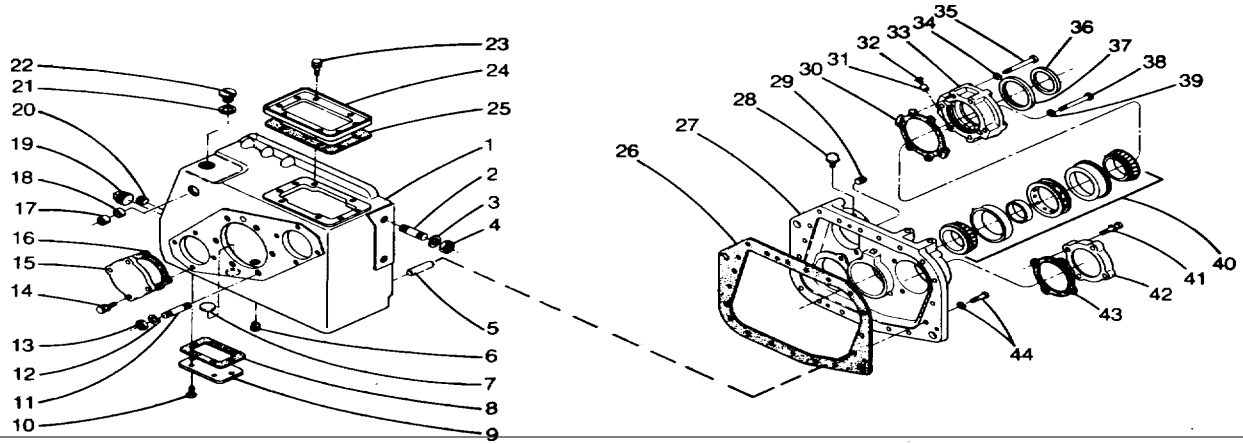

Fig. 1
- (a) Wash the piston rod and check for damage such as dents, deep scratches, damaged chrome plating, etc. All sharp edges on both ends of the rod should be removed with a fine file or whetstone to prevent damage during reassembly. If the rod shows any severe damage, it must be replaced. The static "O" ring (item 4 in Fig. 1), that rides on the turned down portion of the rod, must always be replaced. Lubricate this ring with Cosmolube #2 or equivalent before installation.
- (b) Whenever the cylinder is disassembled all "O" rings (items 4, 6, 8, and 10), back-up rings (items 7, 9, and 10), and the wiper (11) should be replaced. A seal kit is available containing these items. Refer to your machine's parts book for the item number of the seal kit.
- (a) Install a rollpin (item 5 in Fig. 1) in the hole on the end of the piston rod (14).